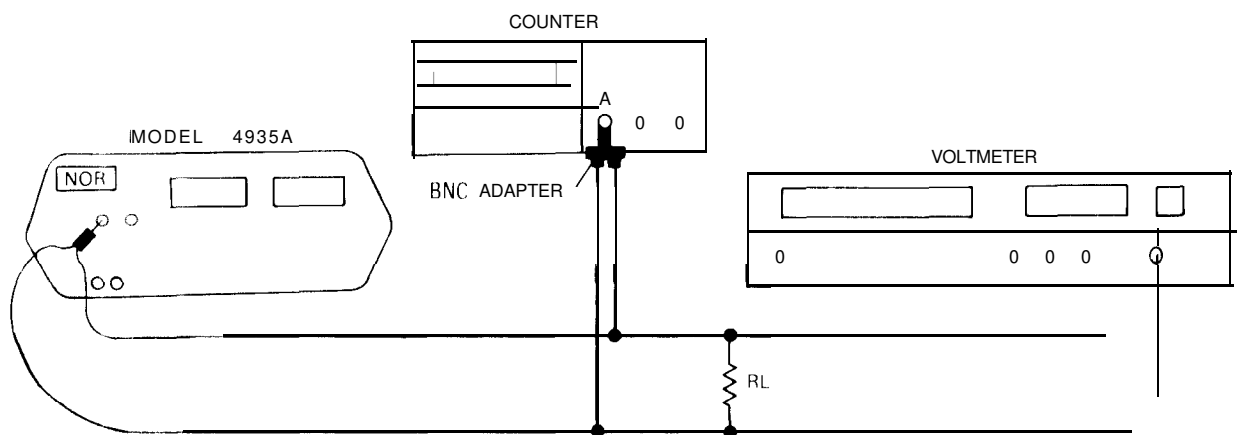

Figure 4-1. Transmitter Flatness Test at +10 dBm
1. Connect Voltmeter to the 4935A TRMT jack as shown in Figure 4-1
20 dB amplifier (see figure 4-1 3)	2 banana plug test cables